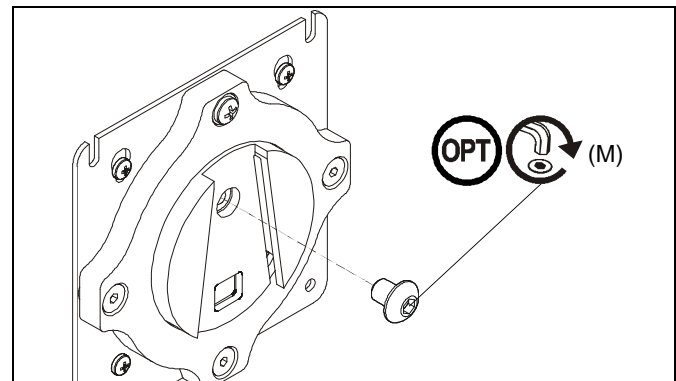

Figure 10
NOTE: (Optional) Rotational adjustment may be locked by installing rotational locking screw (M) into back of faceplate. (See Figure 10)